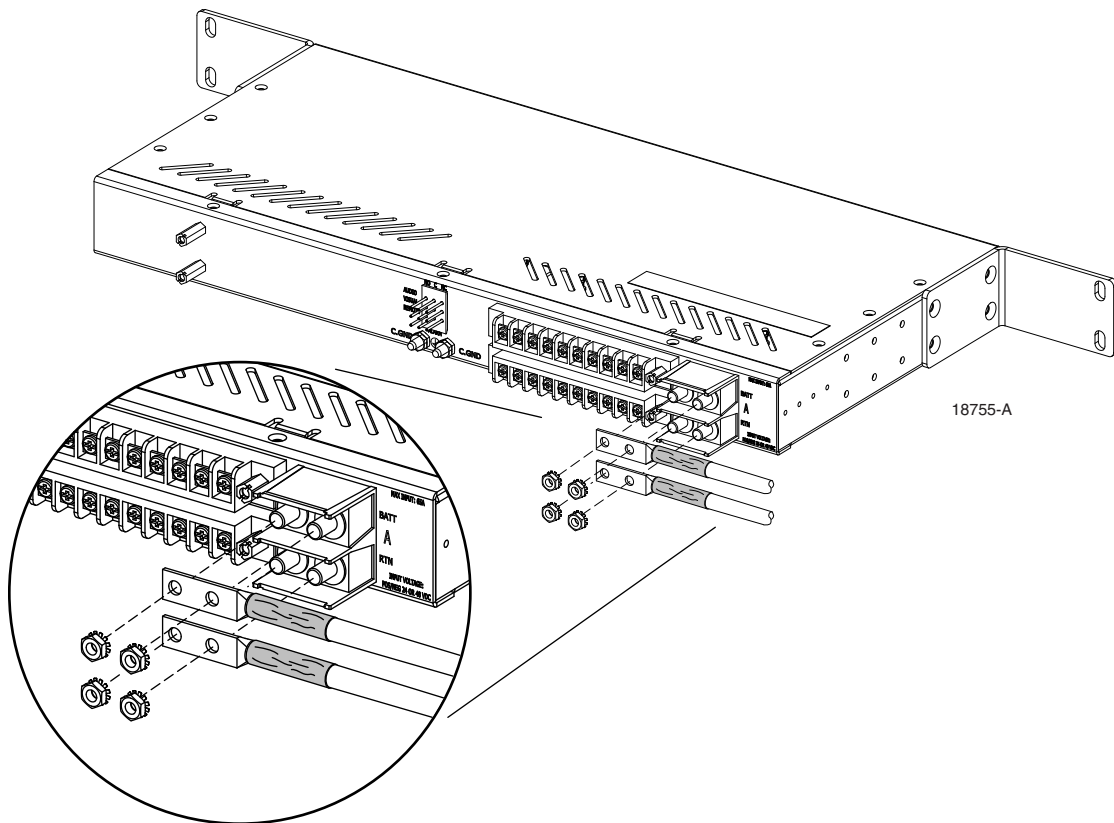

Figure 18. Installing Power Input Using 2-Hole Compression Lugs
- Two-hole compression lugs, shown in Figure 18.
Each set of two studs can accept different size 2-hole lugs, which can be used with a range of wire sizes up to #2 AWG copper wire. In selecting wire size, follow local code, referring to the ampacity guidelines provided in Appendix A of this manual. Two 2-hole lugs for use with #6 AWG wire are included with the fuse panel for each bus. Install the input power wires to the studs as shown in Figure 18. For torque specifications, refer to installation drawing.